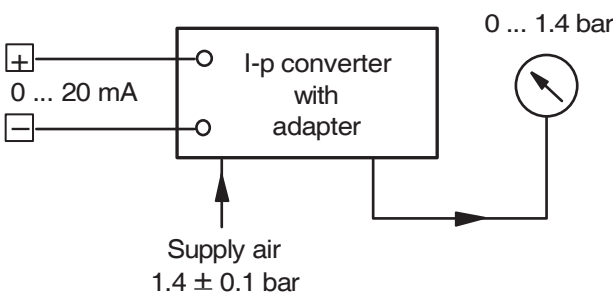
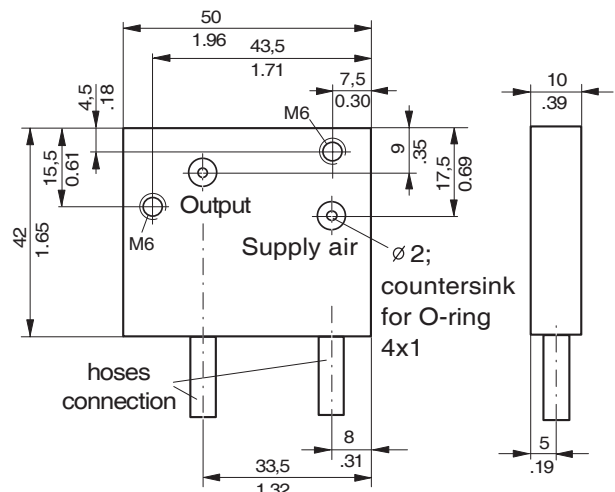

Fig. 30: Test circuit for I-p converter
Fig. 32: Test adapter for I-p converter
An adapter is required for checking and adjusting the I-p converter which can be done by yourself as shown in Fig. 32.
- a) Remove the I-p converter **91** from connecting manifold **90** (two screws M 6), connect it to the adapter Fig. 32 and wire as shown in Fig. 30.